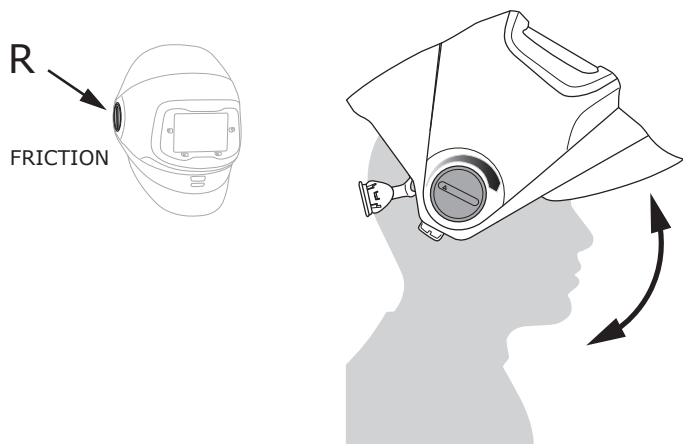

Fig. 6a
- a. To adjust the force or friction, turn the right-hand pivot knob labeled **FRICTION** clockwise to increase, counter clockwise to decrease (Fig. 6a).